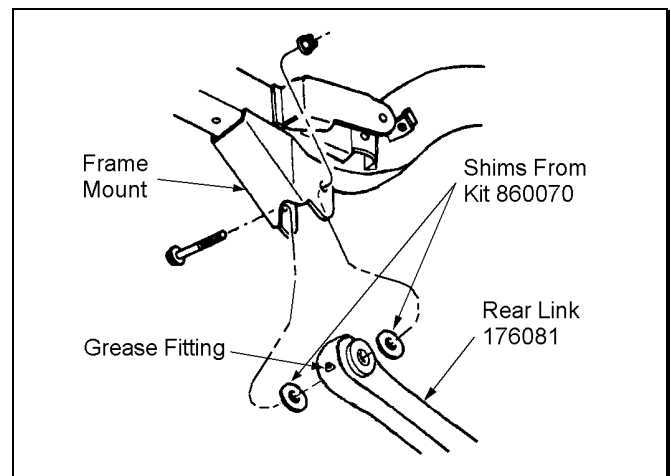

Figure 14
- 3) Install a new Rancho lower suspension arm, along with four shims from kit 860070, to the frame and axle brackets. See figure 14. Use original hardware but do not tighten.